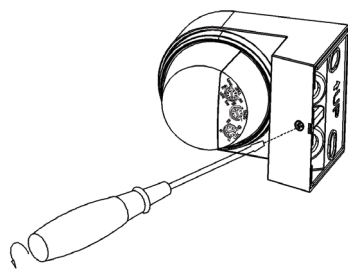

Figure 1
- Loosen the screw on the bottom and unload the bottom (refer to figure 1&2).